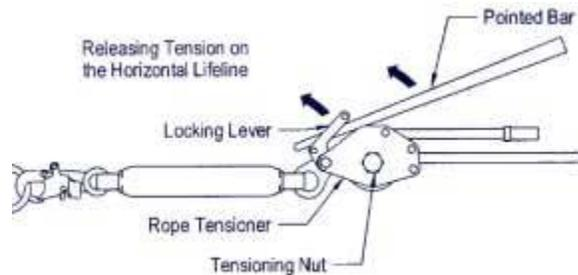

Figure 6
17. Release Tension on the HLL (Figure 6)